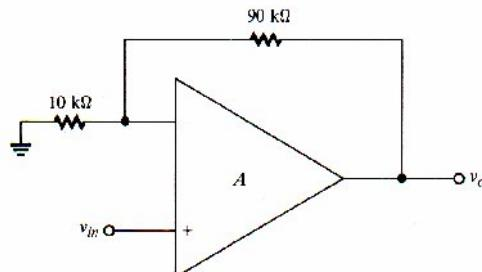

Fig 2-9 Example 2-3
Example 2-3. Find the closed-loop gain of the amplifier in Figure 2-9 when (1) $A = \infty$, (2) $A = 10^6$, and (3) $A = 10^3$.